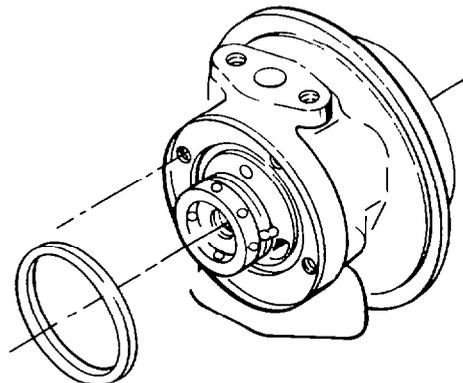

Fig. 141 — Removing O-Ring
- i. Remove the square-cut O-ring (item 8) from the centre housing (see fig. 141); remove the thrust collar (item 11) and the inboard thrust bearing (item 12) from the centre housing.